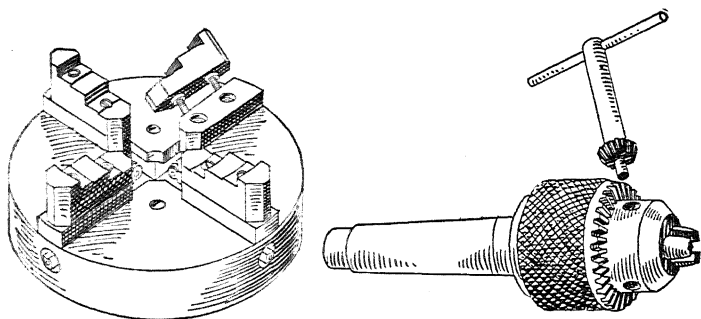

FIG. 114.—Lathe chuck and drill chuck.
**126. Kinds of Chucks.**—The larger chucks (Fig. 114), those that will hold a piece of a diameter of 2 in. or over, are usually mounted on a chuck plate that screws on the end of or is fastened to a flange on the machine spindle. In lathe work they are called “lathe chucks.” The smaller chucks are provided with a taper-shank arbor which fits the taper hole in the end of the spindle (see Fig. 114). Because their chief function is that of holding small drills, etc., these chucks are generally called “drill chucks.”
the drill chucks are universal. Most lathe chucks have reversible jaws. In some chucks the jaw is removed and reversed and in other designs (see Fig. 114), a part of the jaw is reversed. The object of the stepped reversible jaw is to